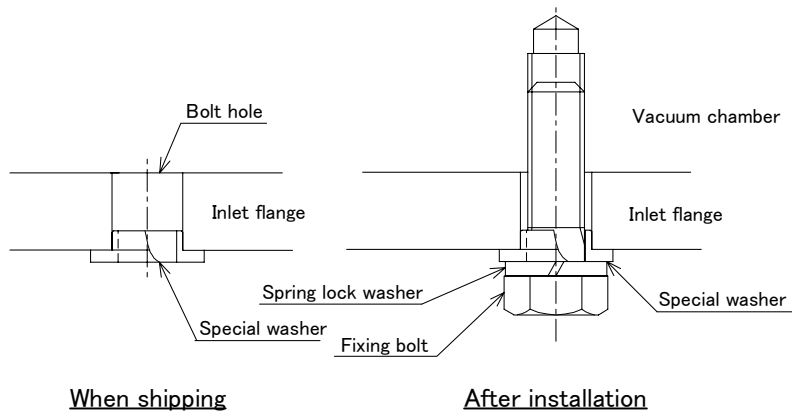

Fig. 5-4 Example of the fixing method using the special washer
Refer to Fig. 5-4 for the details of the bolt attaching part.
- (1) When using, as a backing vacuum pump, a vacuum pump with no check mechanism (backstream flow prevention) such as dry vacuum pump, etc., install a forevacuum valve between the turbo molecular pump and the backing vacuum pump to prevent rapid inverse flow of exhausted gas. And close the forevacuum valve before the backing vacuum pump stops. (See Fig. 5-4)
- (2) Even when "ALARM" signal is emitted, don't cut off the power supply while "ROTATION" signal is being emitted. Even when ALARM lamp lights, don't cut off the power supply while ROTATION lamp lighting.
- (3) If "ALARM" signal is emitted or ALARM lamp lights, shut down the backing vacuum pump or close the forevacuum valve immediately. Furthermore, when main valve is installed between the turbo molecular pump and the vacuum chamber, close this valve, too.